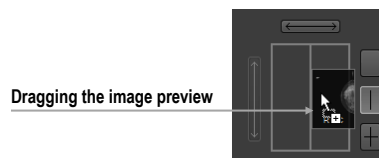

Figure 468 – Dragging an image from the study preview to the layout area
- Use the drag-and-drop technique to drag the image to the screen preview in the screen layout area in the image navigator (see Figure 468). The image is displayed in the appropriate view in the workspace on the left or right monitor.